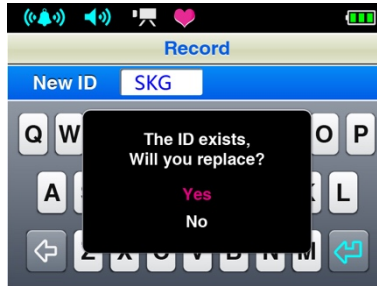

Figure 14. Replace the existed ID dialog box
- c If the inputted ID has existed, the prompt dialog box as figure 14 will appear. Choose "Yes" and click menu button to replace the existed ID, at the same time begin to record and return to the measure interface; choose "No" to return the "Input ID" interface.